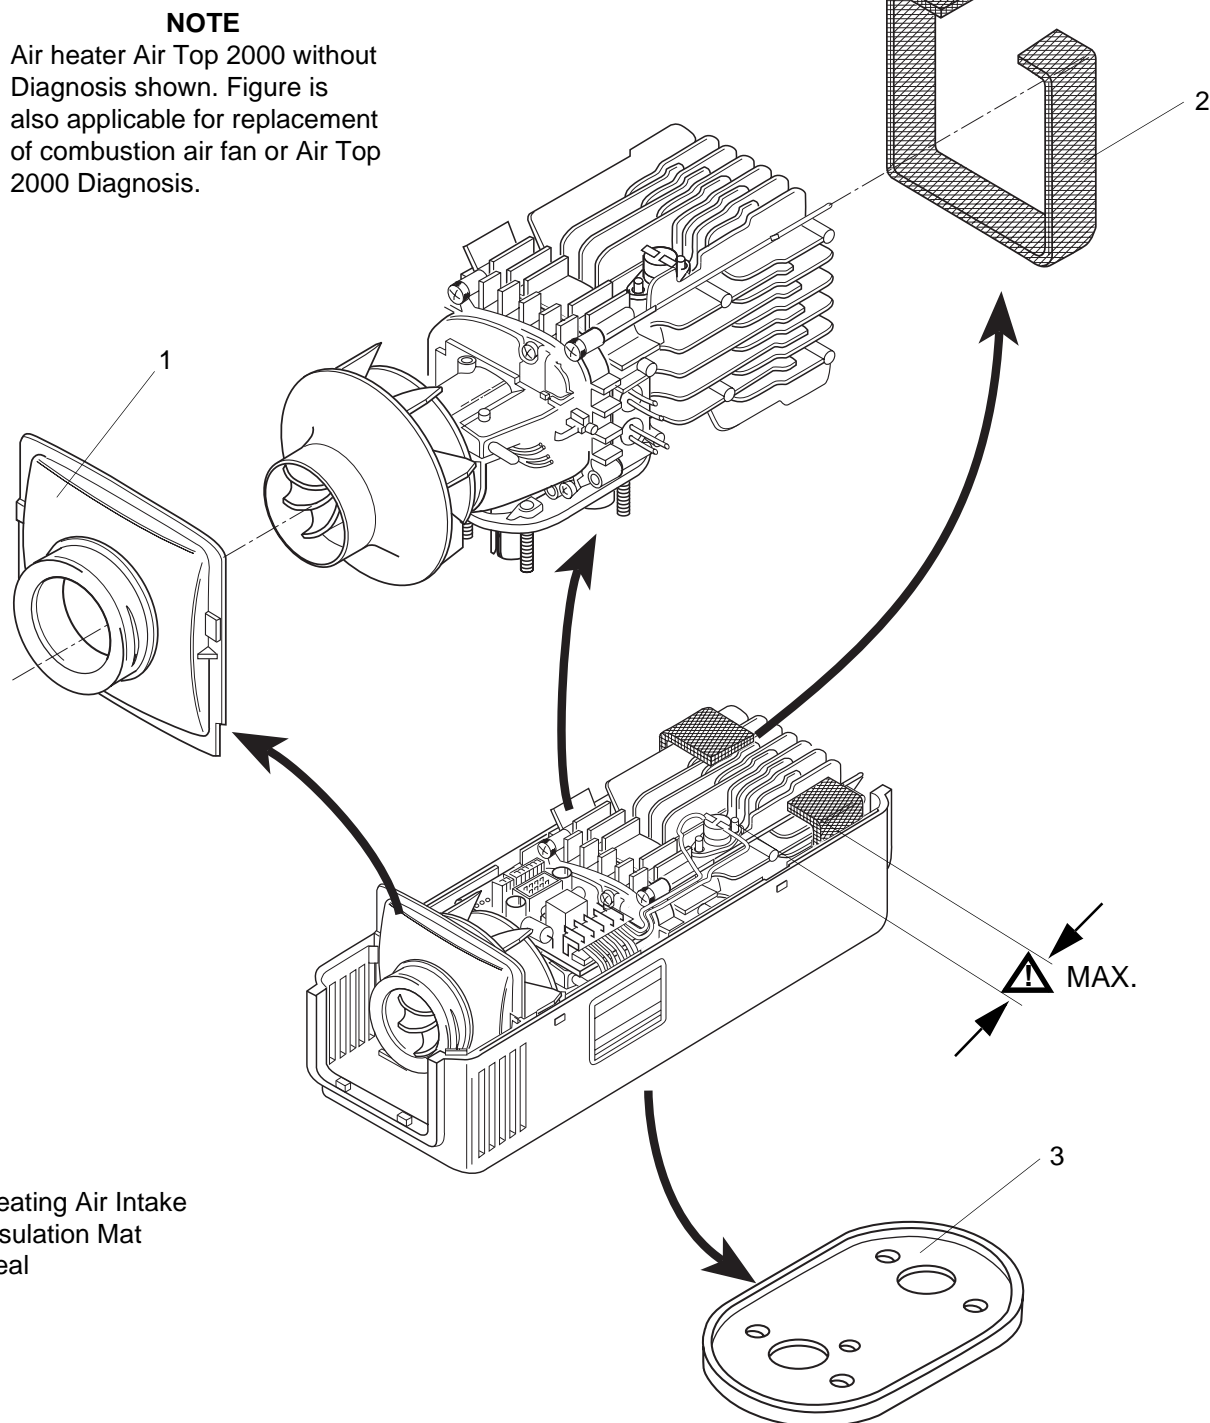

Fig. 902 Replacement of Combustion Air Fan (Removal)
3. Remove seal (3, Fig. 902) from lower housing shell and discard.
5. Remove heating air intake (1, Fig. 902) and remove insulation mat (2).
5. Place air heater with heating air intake (1, Fig. 902) and insulation mat (2) into lower housing shell and on side lock in position in housing.
6. Fit new seal (3) to lower housing shell.
- 1 Sheet Metal Screw or Ejot DG screw (5)